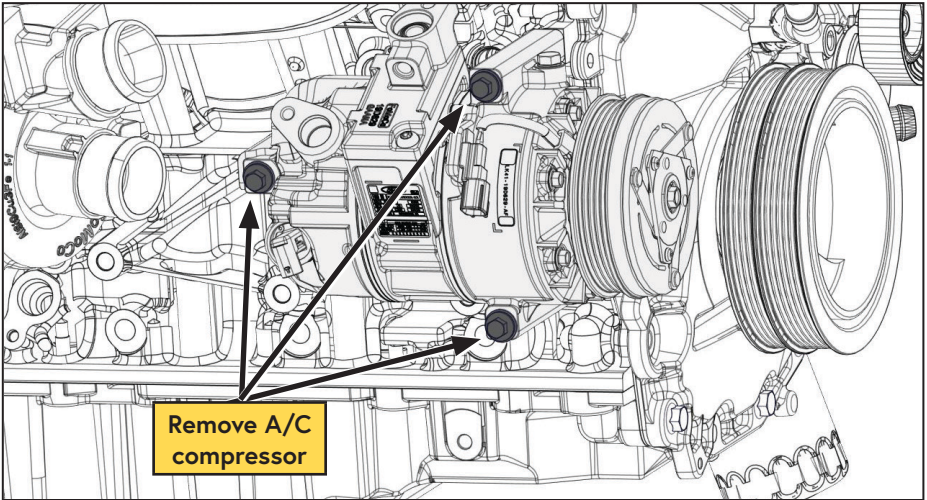

Figure 12 — Remove A/C compressor
- Leaving the A/C lines connected, remove the A/C compressor and secure it up and out of the way (Figure 12).